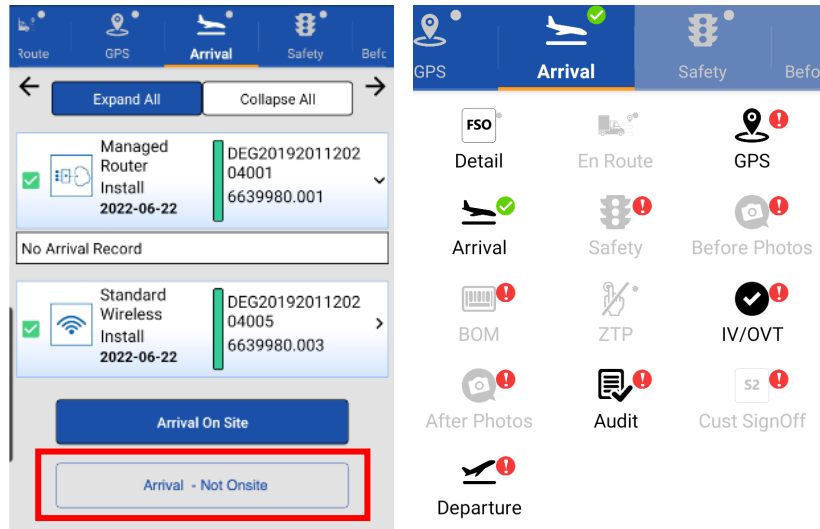

Figure 33: Arrival - Not Onsite
1. On the screen that launches after the En Route step (GPS), the application will automatically try to capture your GPS. If the initial try is not accurate, tap **Capture GPS** (Figure 33) to try again.